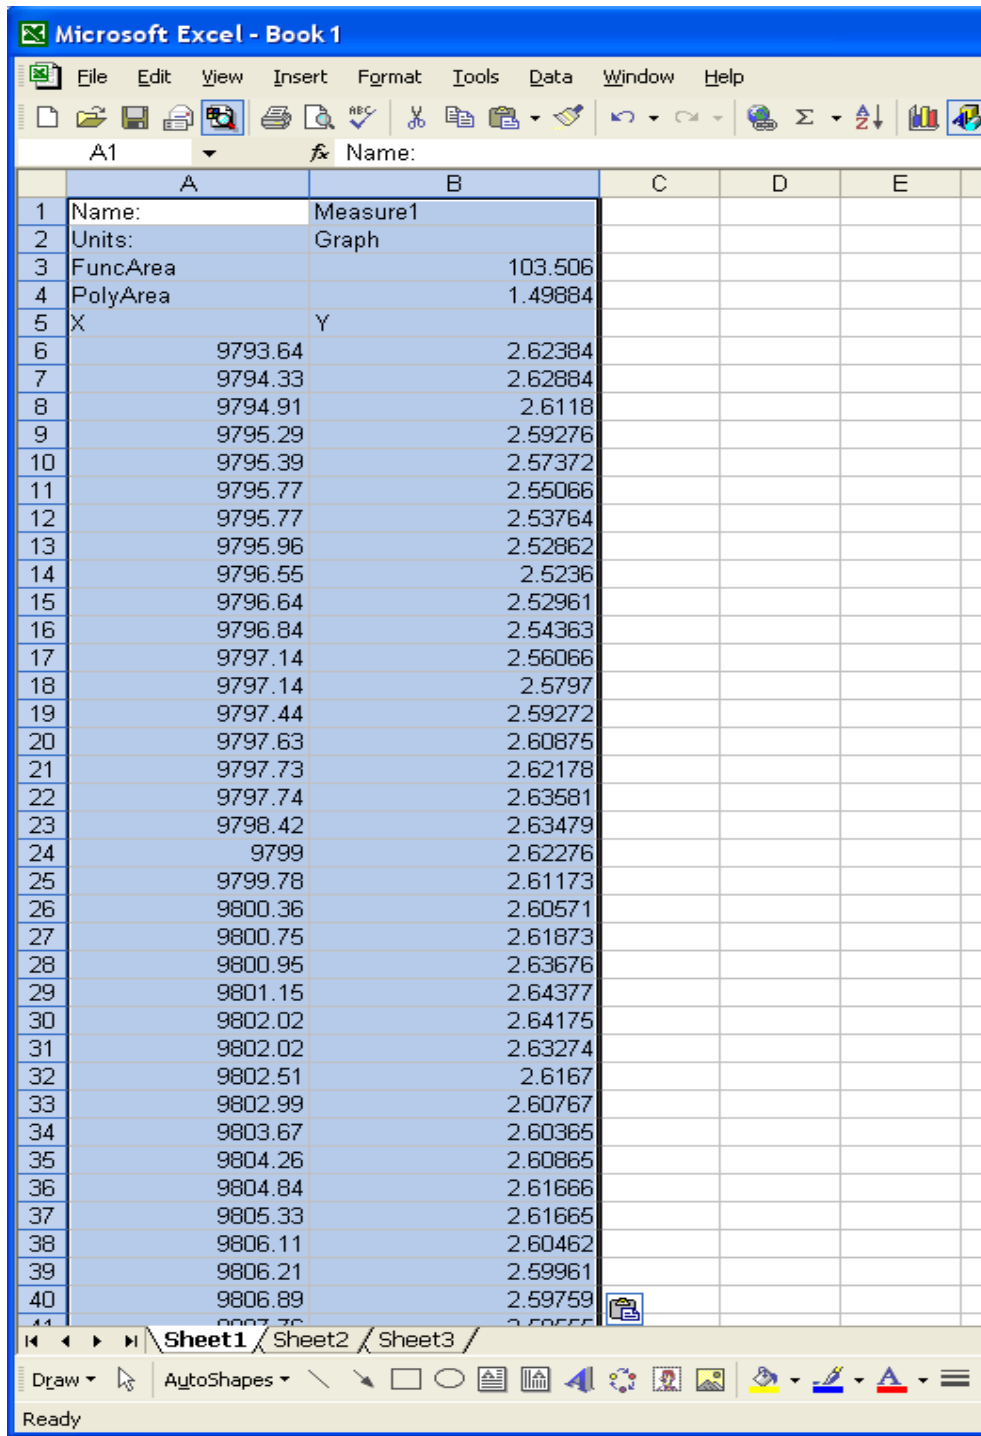
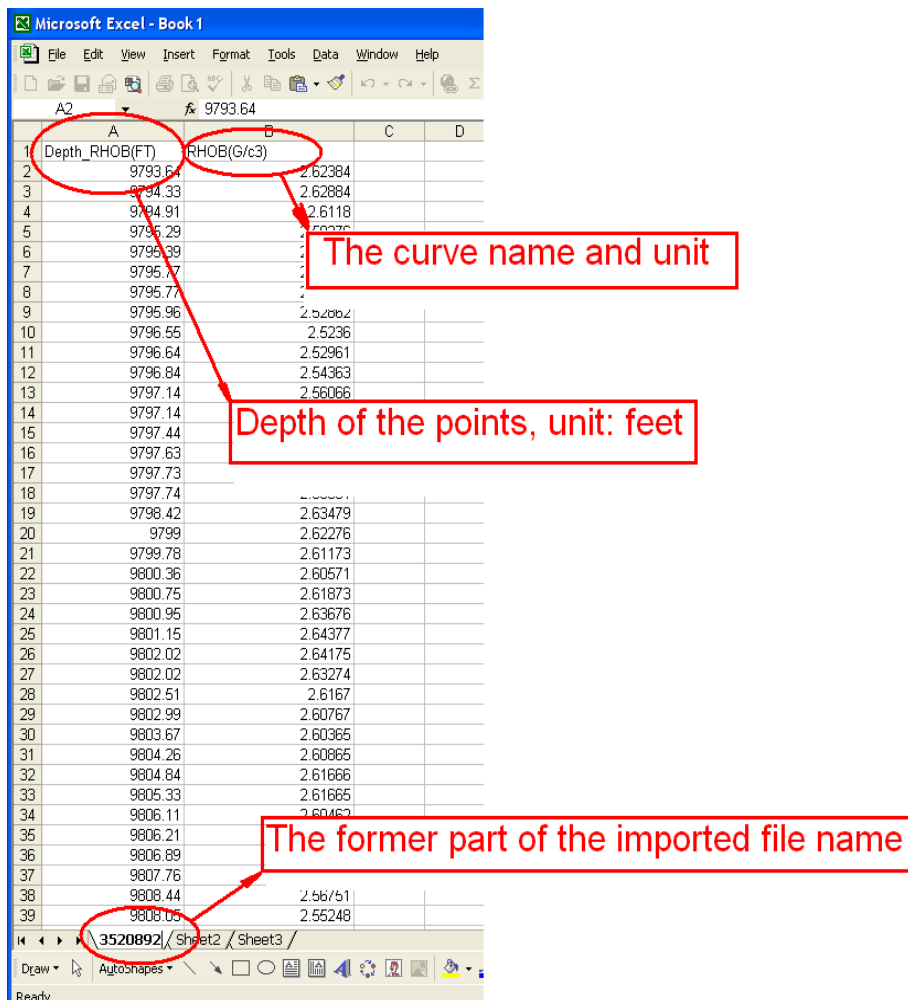

Figure 14, Paste the data into a spreadsheet within Excel
Figure 15, modify the column name and change the sheet’s name
- d. Paste the data you just copied to a spreadsheet of Excel.(Figure 14)
- e. Delete the unwanted rows in Figure 14 (from the 1st row to the 4th row). Change “X” and “Y” to appropriate names and use the appropriate units --- these info can be found from the legend of the log you just digitized. In this case, “X” is replaced by “Depth\_RHOB(FT)”; “Y” is replaced by “RHOB(G/c3)”. Change the spreadsheet name from “Sheet1” to a number which is the first part of the imported file’s name (that is, the unique well ID as shown in Figure 15). For example, in this case, the “Sheet1” is replaced by “3520892”. The original imported file name is: